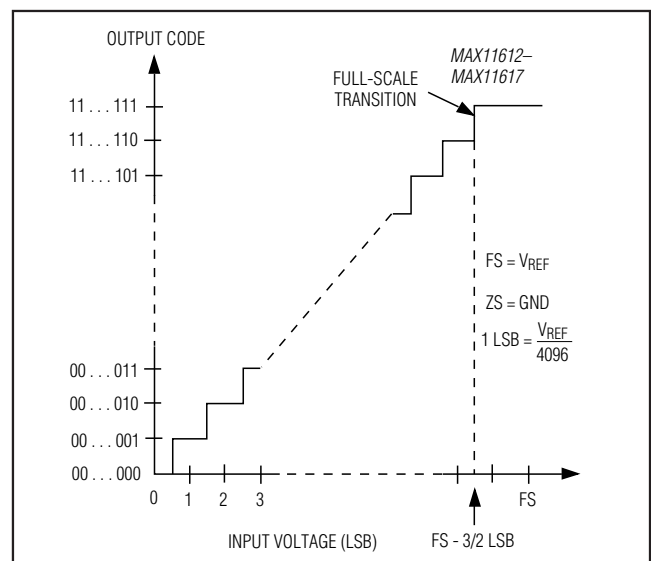

Figure 12. Unipolar Transfer Function
Output data coding for the MAX11612-MAX11617 is binary in unipolar mode and two's complement in bipolar mode with 1 LSB = (VREF/2N) where N is the number of bits (12). Code transitions occur halfway between successive-integer LSB values. Figures 12 and 13 show the input/output (I/O) transfer functions for unipolar and bipolar operations, respectively.